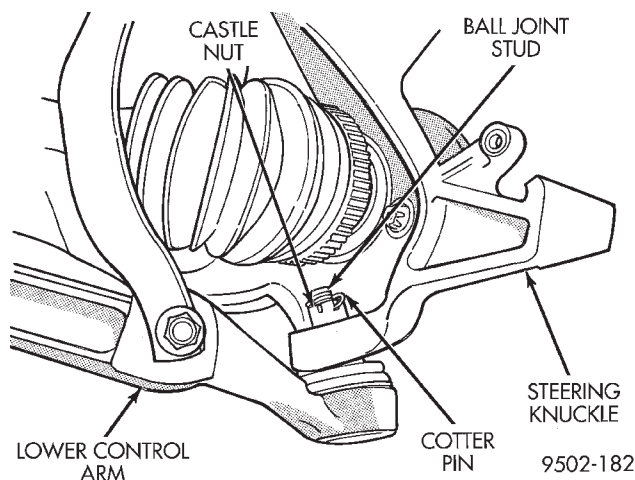

Fig. 10 Lower Ball Joint to Steering KnuckleAttachment
(12) Remove cotter pin and castle nut (Fig. 10) from stud of lower ball joint at the steering knuckle.